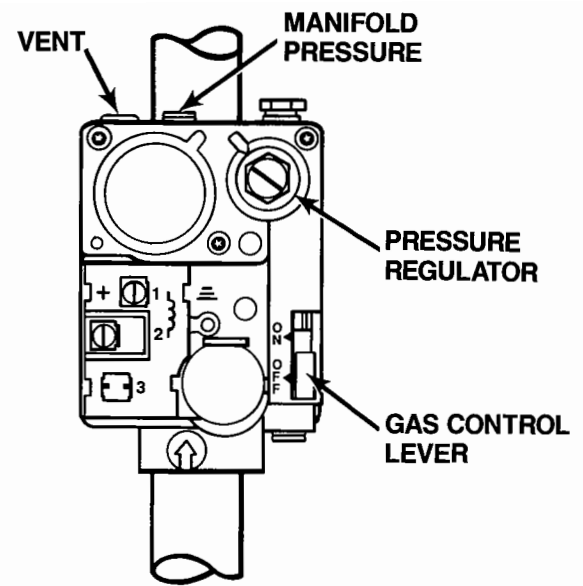

FIGURE 18
Turn on manual gas valve and slide gas control lever to the ON position. Refer to Figure 18 regarding gas valve lever and index point.
If the negative pressure doesn't read $-.20''$ remove the cap (see Figure 18) from gas valve and turn adjusting screw accordingly. Replace cap before taking reading.
6. Push and slide gas control lever to "OFF" position. See Fig. 18.
7. Wait five (5) minutes to clear out any gas.
8. Slide gas control lever to "ON". See Fig. 18.
3. Push and slide gas control lever to "OFF" position. See Fig. 18.